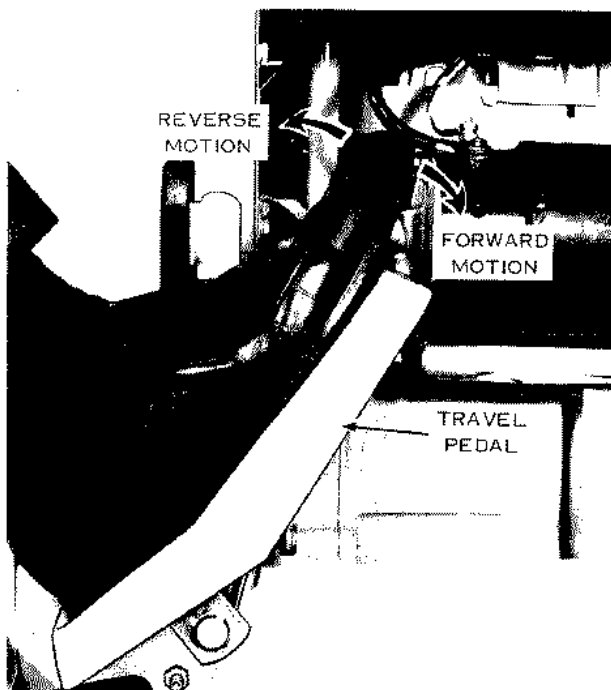

Figure 6
6. Foot Brake. Use when vehicle is being towed or free-wheeling; when moving transmission selector lever (12) from NEUTRAL or PARK position to DRIVE position.
7. Travel Pedal. Depress pedal with toe of foot for forward motion. Depress with heel of foot for reverse motion. Provides instant braking (center position) and speed regulation. (See Figure 6.)
Release brake pedal, and slowly apply pressure to the travel pedal with toe of right foot for forward motion, or if reverse motion is desired, slowly apply pressure to travel pedal with heel of right foot. (See Figure 6.)